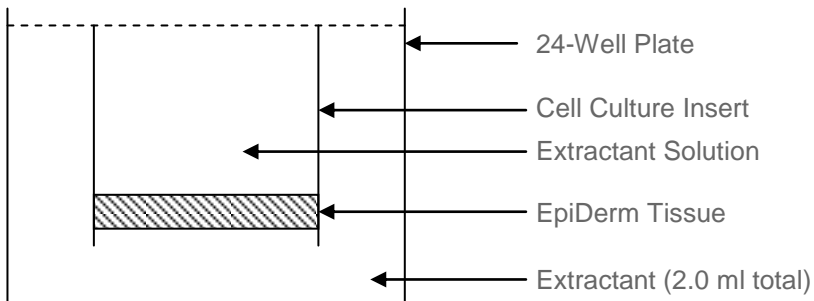

Figure 3: Extraction Configuration
b) **Add extractant:** Immerse the cell culture inserts with 2.0 ml of the extractant solution per well to completely cover the EpiDerm sample. See Figure 3. Cover the extraction plate to reduce evaporation of extractant. *Note: If the test article is colored and does not completely rinse off, pipet 1.0 ml of extractant into each well so that the MTT is extracted through the bottom of the tissue culture insert.* After extraction is complete, remove the insert and add an additional 1.0 ml of extractant to bring the total volume to 2.0 ml.
c) **Extraction conditions:** Place the extraction plate with its top in place into a sealable plastic bag (e.g. Ziplock) to minimize extractant evaporation. Allow the extraction to proceed for 2 hours at room temperature (RT) on an orbital shaker or overnight (without shaking) at RT in the dark. Protect plate from light while shaking using aluminum foil. Shaking should be vigorous enough for some mixing within the wells, but not too vigorous such that liquid will leave the wells. *Note: We recommend allowing the extractions to proceed until all samples have been extracted for 2 hours (with shaking) or overnight (without shaking) so that all MTT readings can be made at once.* As long as evaporation of solvent is prevented, extraction times beyond these times will not affect MTT readings. *Note: If you are using your own reagents, the extractant should not contain acid. (e.g. hydrochloric acid). We recommend using only MatTek provided products (e.g. MTT-100).*